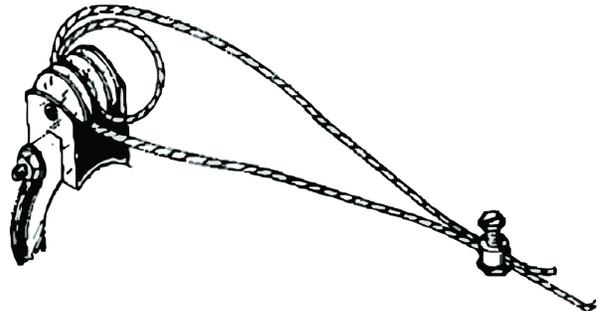

Figure 37. Anti-Roost Cable at the Hopper
2. Start at the hopper end of the line and form a loop around the anti-roost bracket. For best results, make a double loop around the anti-roost insulator in the center groove of the insulator and fasten with a 1/16" cable clamp as shown in **Figure 37.**